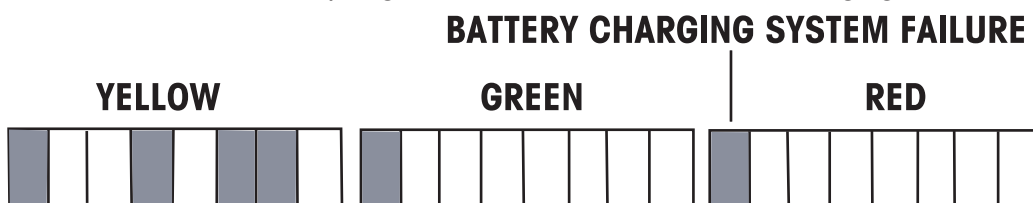

Figure 3-5. Battery Charging Indications.
2. Observe the bar display, Figure 3-5 indicates the status of charging.
3. Observe the bar display and note if the battery is charging normally, refer to figure 3-5 for displays. If the bar indicator is blinking in one of the yellow segments, the recharge board is working. To confirm this, momentarily press the **C** button at 1 or 2 minute intervals and note the battery voltage on the indicator display. It should increase slightly with each button press. As an example, the first press indicated 8.62v the second press should increase slightly. A good Recharge board will continue to charge the battery until the first green LED is lit. If the battery fails to indicate an increase in voltage after pressing the **C** button several times or the yellow LED does not increment after a few hours, either the battery or the recharge board is defective.